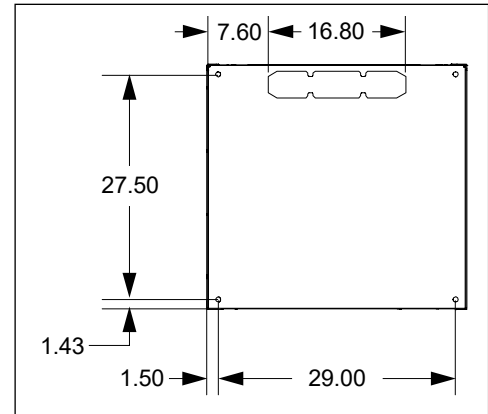

Figure 7
- Figure 7 shows the required conduit openings and mounting hole dimensions for entering/mounting the bottom of the CUBE. Use these dimensions when designing the pad.